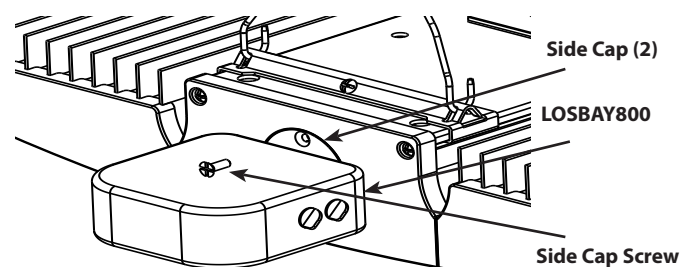

Fig. 3
5. If ordered with **LOSBAY800** sensor (suffix /LOS) or similar sensor or LightCloud controller, re-attach pre-wired sensor on **Side Cap** to **Housing**. Tighten **Side Cap Screw** as shown in **Fig. 3**.
7. Secure **Access Plate** and tighten **Screws (2)**.